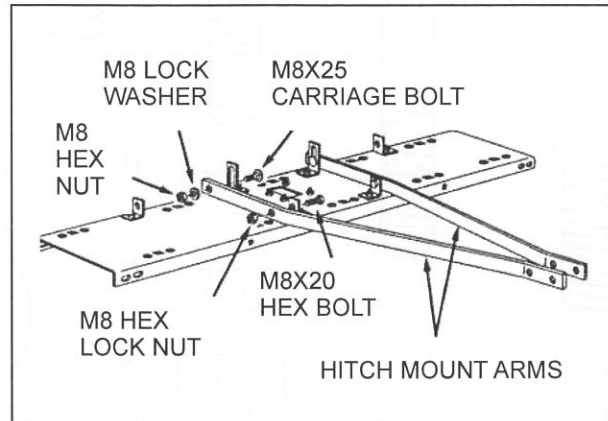

FIGURE 3
5. Fasten the hitch mount arms to the outside of the angle brackets at the front of the tine shield. Use two M8x20 hex bolts and M8 hex lock nuts. Tighten and then loosen the nuts slightly. See figure 3.
6. Fasten the hitch mount arms to the outside of the hitch arm mount brackets at the rear of the tine shield. Use two M8x25 carriage bolts, M8 lock washers and M8 hex nuts. Do not tighten yet. See figure 3.